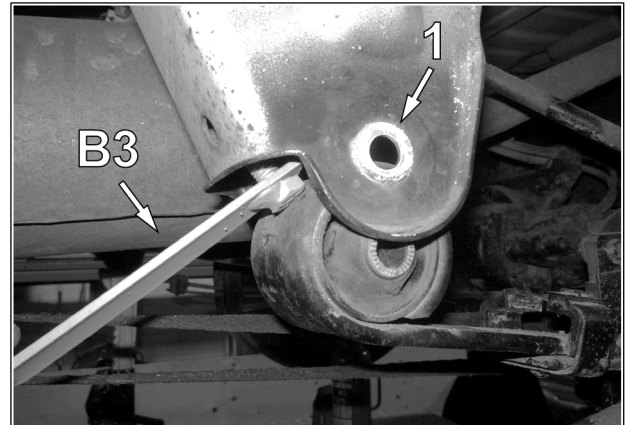

Fig. 3
4. Unbolt the rear suspension leaf spring front mounting bolt (1). Insert the anchor bracket top plate (B3), bolt first, in the leaf spring's front hanging support. See Fig. 3.